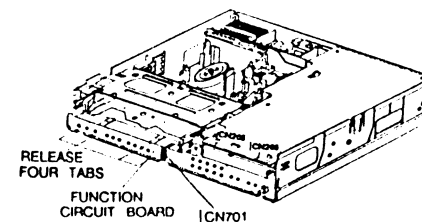

Fig. 5 Function Switch Circuit Board Removal
2. Release tabs from the frame. (Fig.5)
3. Remove four (4) tabs holding the function switch circuit board.